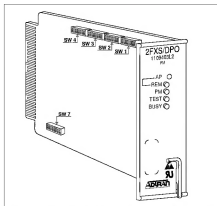

Figure 1. 2FXS/DPO
This practice provides installation and maintenance information for the ADTRAN® Intelligent 2-Wire Foreign Exchange Station/Dial Pulse Originate (2FXS/DPO PM) Dataport with Performance Monitoring, part number 1109403L2. It is a D4 compatible channel unit and operates in any standard D4 channel bank. Intelligent features requires the unit to be used in the ADTRAN ACT 2300, ACT 1900, or standard WECD® D4 channel bank using the ADTRAN LIU-3/PM common unit. The 2FXS/DPO PM provides an interface between a D4 channel bank Pulse Code Modulation (PCM) backplane interface and a 2-wire voice frequency (VF) transmission and signaling facility. **Figure 1** is an illustration of the 2FXS/DPO PM. The unit is multifunctional and can be provisioned to operate in the following modes:
Internal slide switches SW1, 2, 3, 4, and SW7 are used to manually provision and set the operational modes and options of the unit. **Figure 1** displays switch locations.